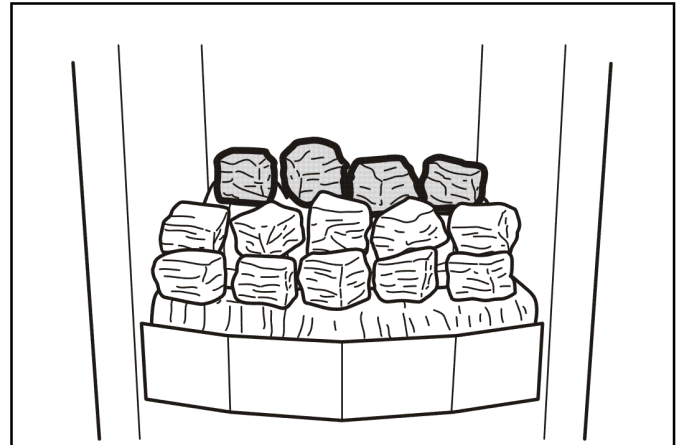

Figure 28. Third row of ceramic coals
4. Place the remaining four ceramic coals on top of the base ceramic coal rear (See figure 28).